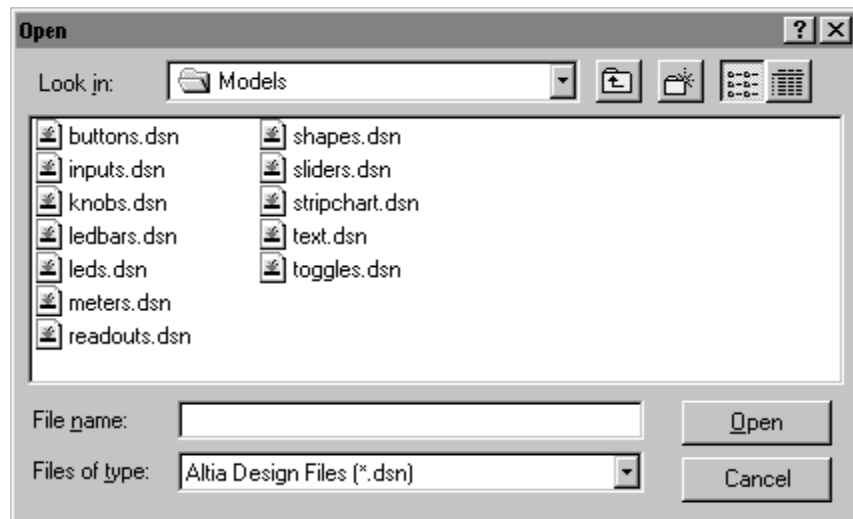

FIGURE 3-1 Open Libraries Dialog
2. In this initial design we will only have a slider bar and an analog meter. To create the slider bar, click on the **Libraries** button which opens the dialog shown in Figure 3-1.